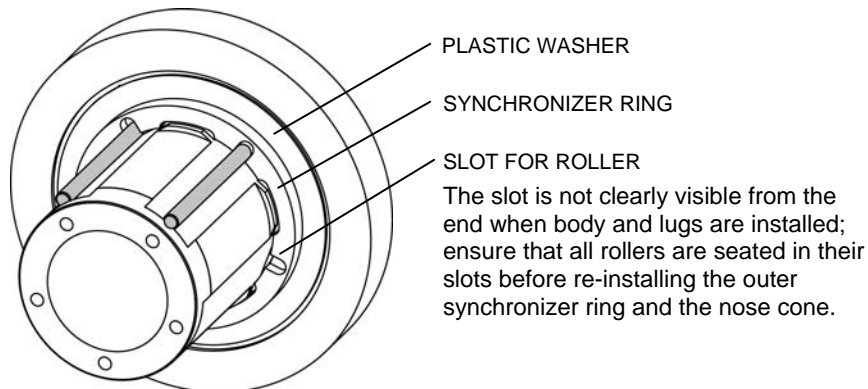

Fig. 11
5. Install the remaining three rollers. Ensure that they fit into the slots on the inner retainer ring (see note in Fig. 11 below).